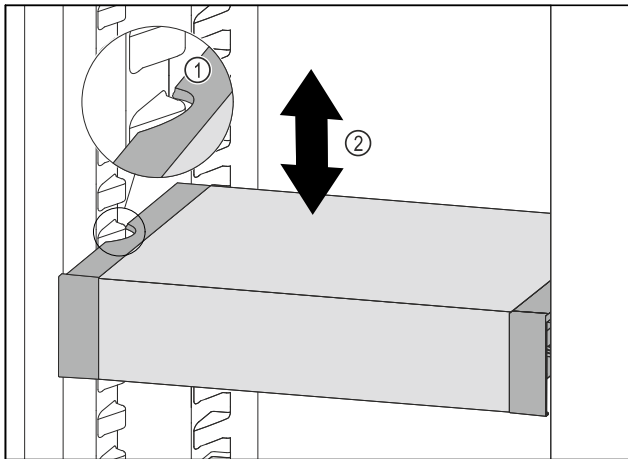

Fig. 82
- ▶ Pull VarioSafe forwards until the recesses in the side of the VarioSafe are at the level of the support rib in the refrigerator compartment. Fig. 82 (1)
- ▶ Move VarioSafe up or down in the refrigerator compartment until the desired height is reached. Fig. 82 (2)